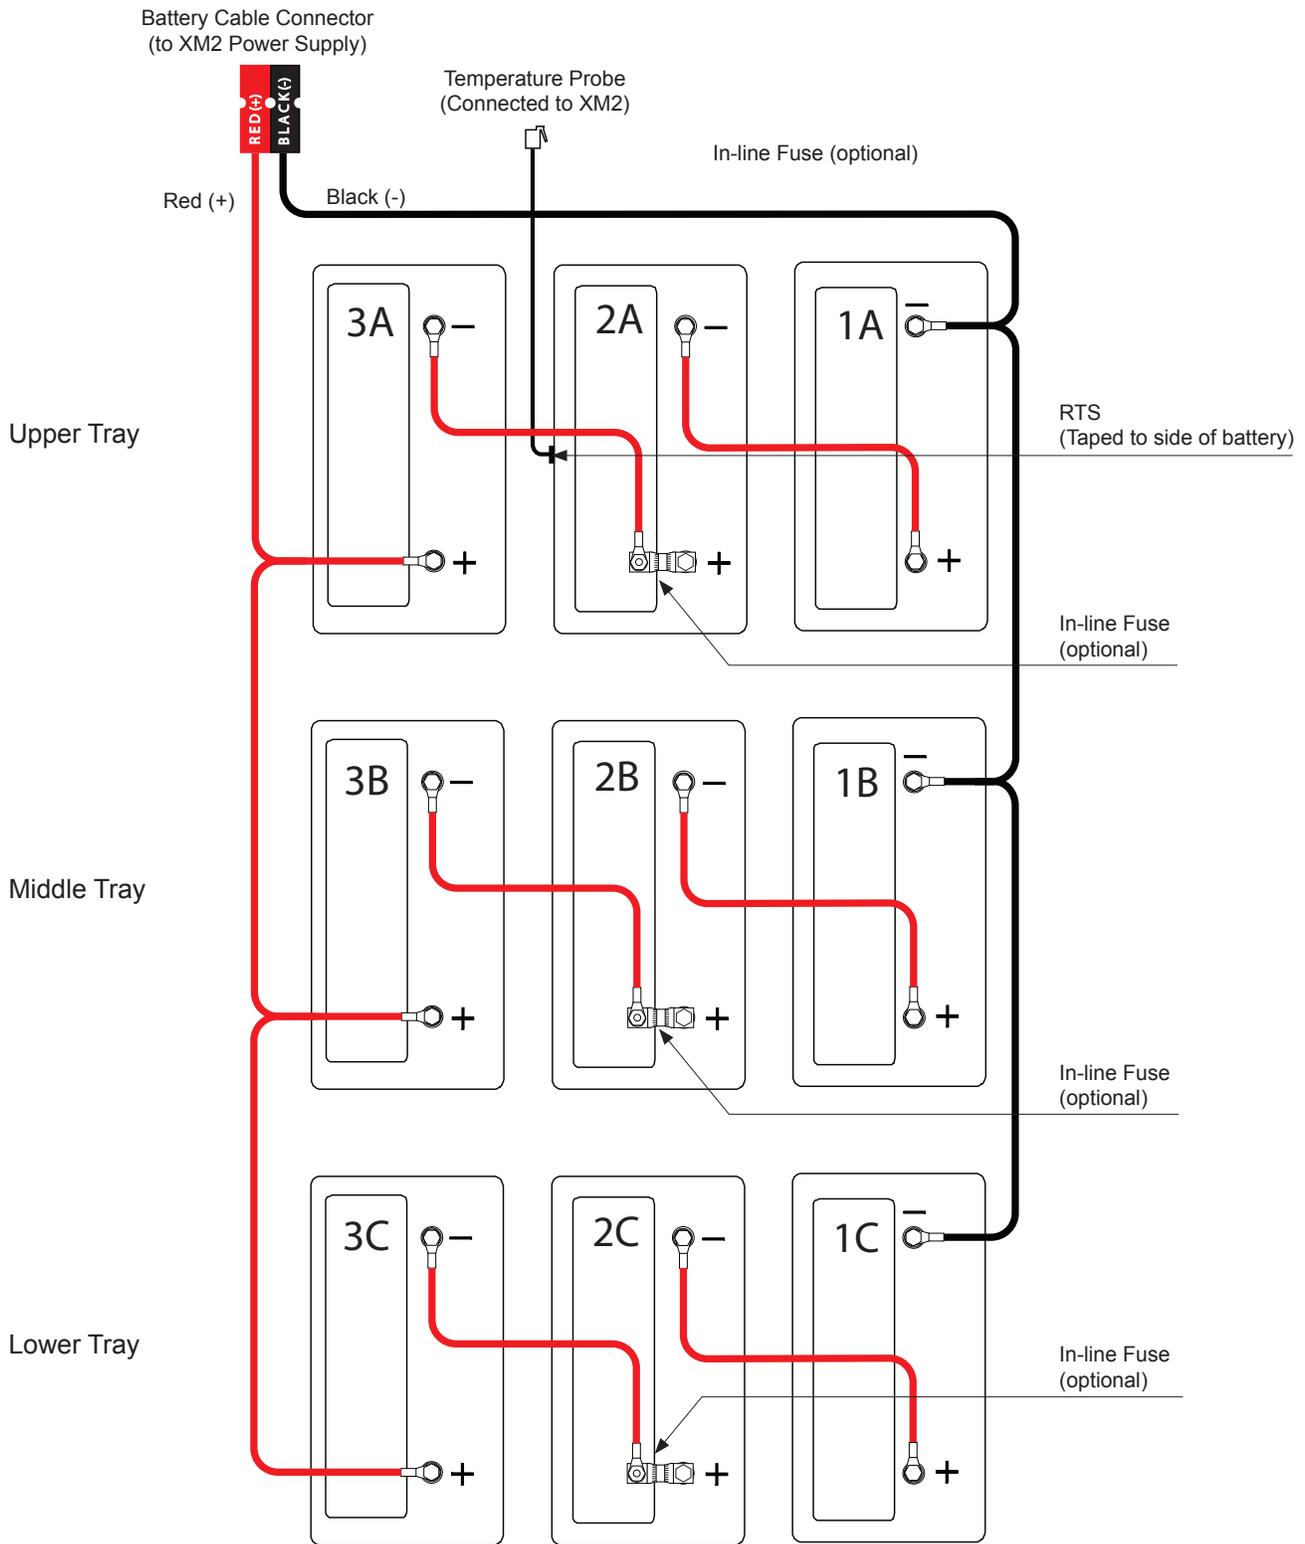

Fig. 2-32, PWE-9 Battery Wiring Diagram
3. Switch the BATTERY BREAKER on the front of the power supply OFF. This prevents the inverter from starting when the batteries are first connected to the power supply. See Fig. 2-32.
4. After verifying that the batteries, battery connections, and battery cables are connected properly, plug the battery cable connector from the battery string or BIT into the power supply’s BATTERY INPUT connector. The connector is keyed and color-coded to fit in only one direction. See Fig. 2-32.
5. Plug the Remote Temperature Sensor into the TEMP PROBE connector located on the Inverter Module assembly on the front of the power supply. See Fig. 2-32.
6. If applicable, plug the optional Local/Remote Indicator lamp (LRI) cable into the LRI connector. See Fig. 2-32.
7. If you are installing a Tamper Switch (TMPR SW), plug it into the 2-pin TMPR connector, and plug the transponder cable into the transponder TMPR connection. See Fig. 2-32.
8. Plug the connector from the SPI into the power supply’s OUTPUT 1A. If the enclosure has the optional AC Indicator (ACI) lamp, plug the connector from the SPI into the ACI and the connector from the lamp into the power supply’s OUTPUT 1A. If the PIM option is installed, connect a second SPI to OUTPUT 2. Make sure that the SPIs “ALT/ON” switch is in the ON position. See Fig. 2-32.